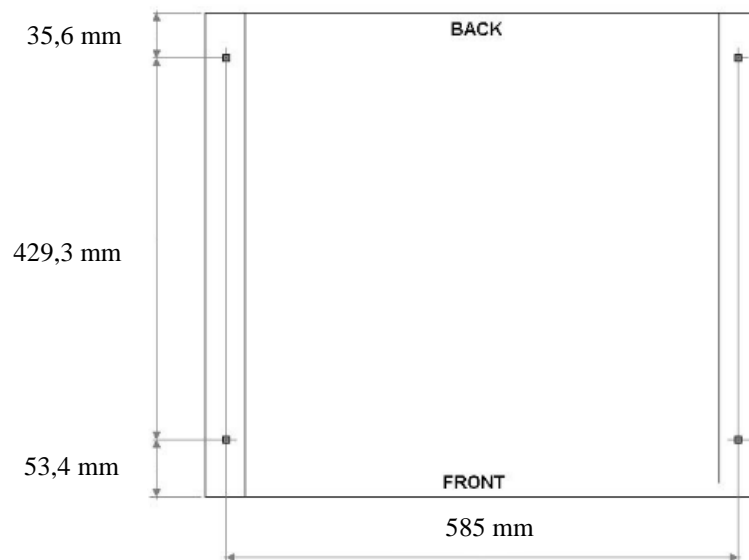

Figure 4- 2 Bolt Pattern for SVS-300 Installation
- Install on a cement pad minimum 7" above surrounding curbing or walkways for water flood control, see Figure 4- 1
IMPORTANT INFORMATION – SAVE THESE INSTRUCTIONS**Figure 4- 1 SVS-300 Installation**